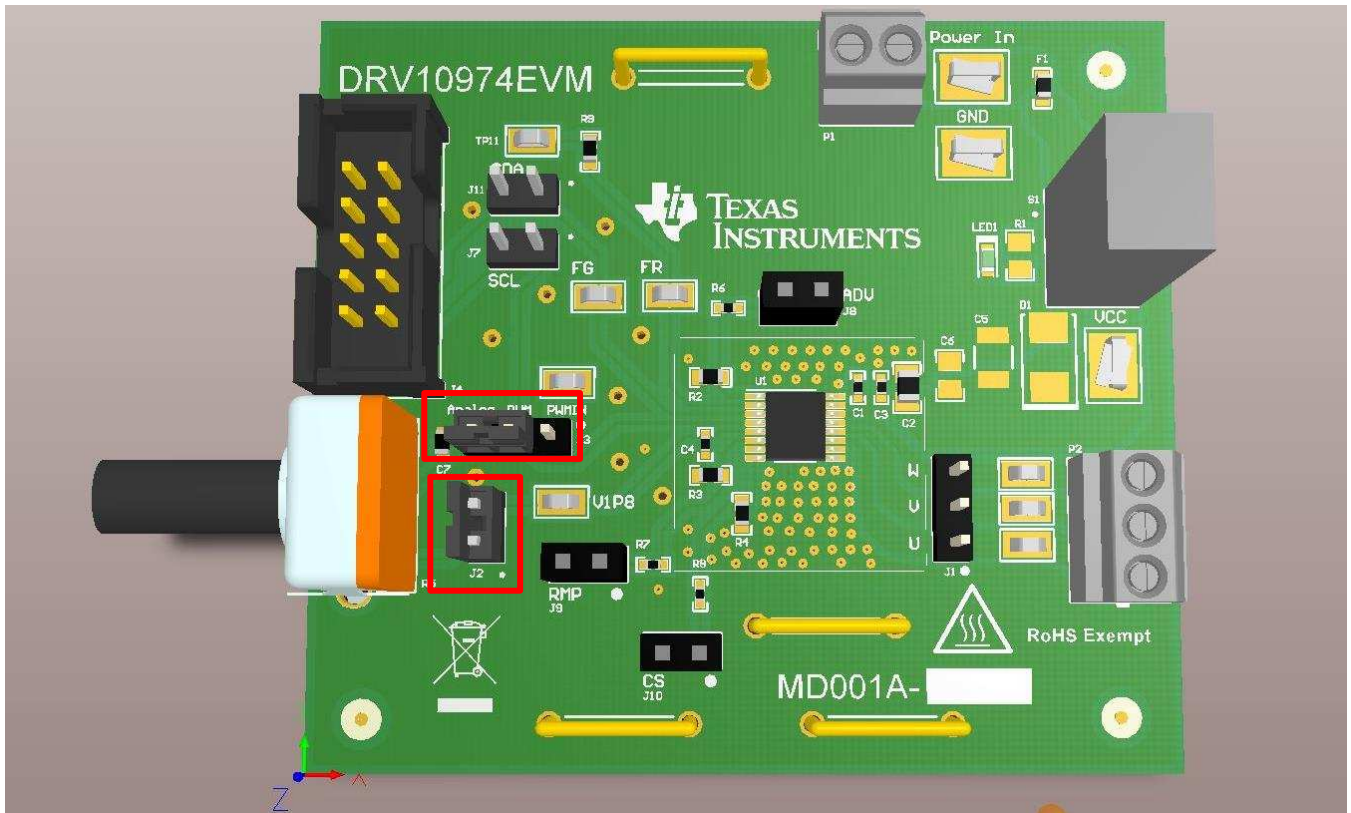
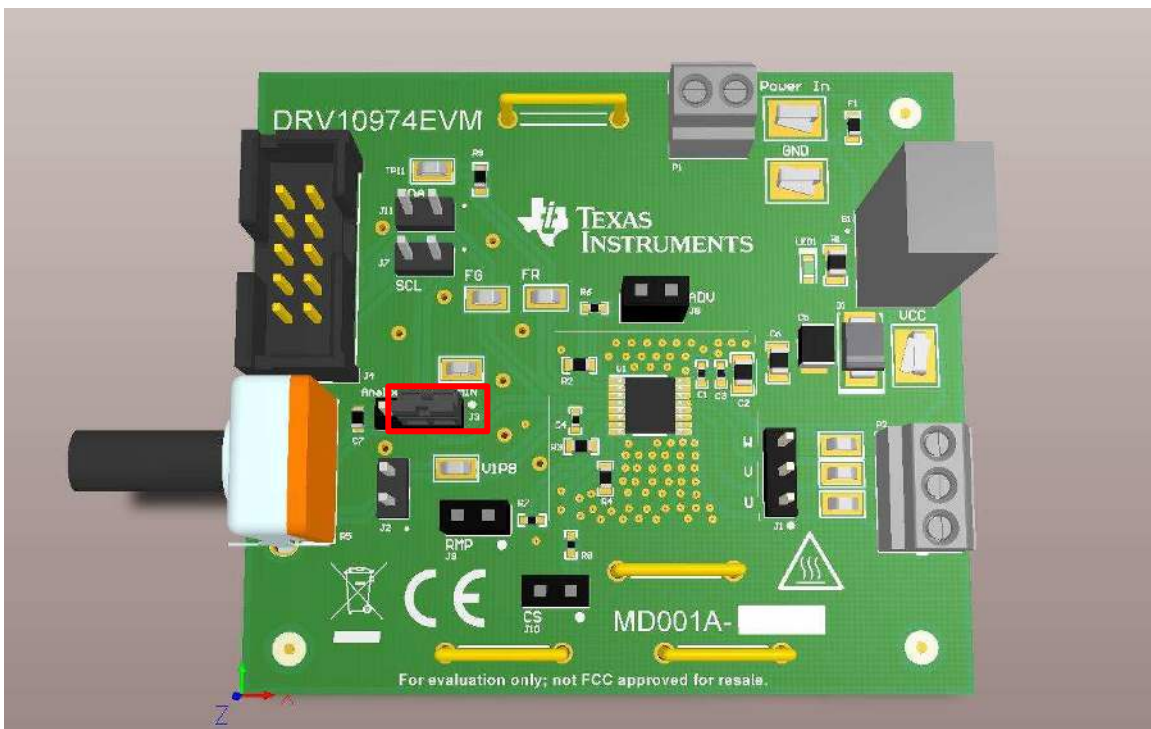

Figure 3. Jumper Configurations for Controlling Speed With Analog Voltage
Figure 4. Jumper Configurations for Controlling Speed With PWM Signal
- For using an analog voltage to control the speed: match the jumpers as shown in Figure 3 and use the potentiometer (R5) to control the speed.
- For using a PWM signal to control the speed: match the jumpers as shown in Figure 4 and connect the PWM signal to the PWMIN test point.
- **Select (J3)** is used to configure motor speed-control resources for the PWM pin. Set the PWM jumper to *PWMIN* for sending a PWM signal to the PWM pin to control motor speed. See Figure 4 for more details. Set the PWM jumper to *Analog* with J2 connected for using potentiometer (R5) to control motor speed. See Figure 3 for more details.